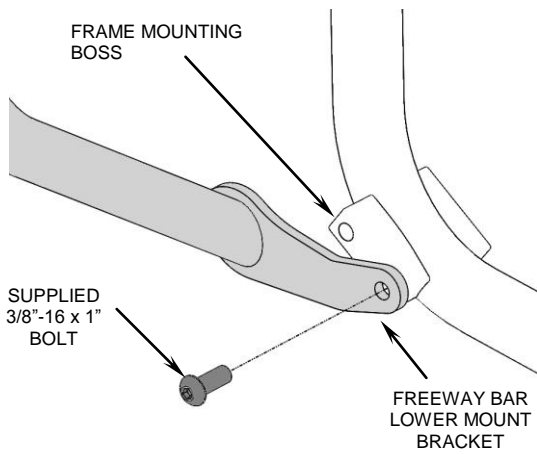

FIGURE 1
2. Position the freeway bar into place between the frame rails and front tire. Align the holes in the freeway bar's lower mounts with the rear holes on the frame mounting bosses. Insert the (2) supplied 3/8"-16 x 1" buttonhead bolts thru freeway bar's lower mounts and thread into the frame mounting bosses. See Figure 1. **DO NOT FULLY TIGHTEN.**